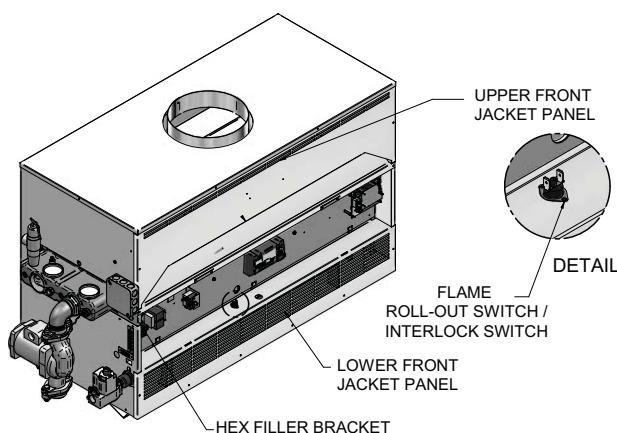

Figure 8-2_Outer Air Deflector and HEX Filler Bracket
- d. Remove the outer air deflector (FIG. 8-2).
- g. Disconnect the wiring from the flame rollout/interlock switch, see FIG. 8-2, page 59.
- r. Remove the heat exchanger (HEX) filler bracket (FIG. 8-2).